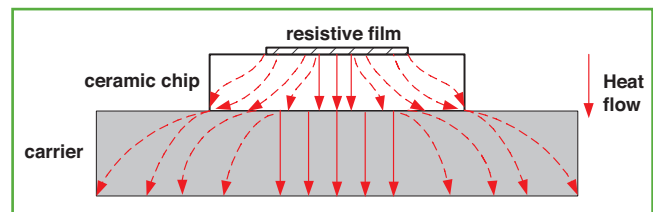
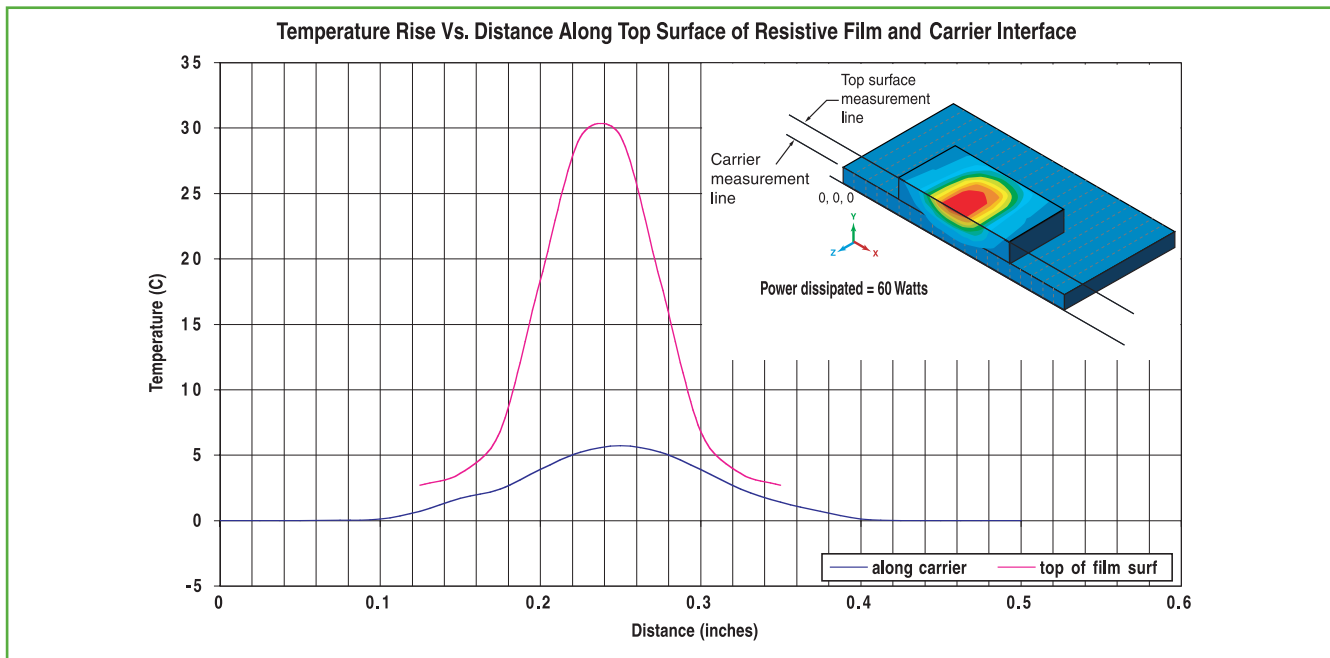
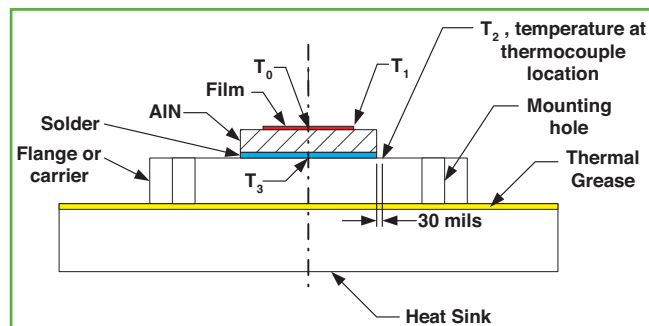

Figure 10. Heat flow around a mounted chip resistor
Figure 11: Computer simulation of isotherms around mounted chip resistor
Figure 12: Temperatures at a number of points on and around a groundplane-mounted resistive chip
Before we can do a thermal design, we must first decide on exactly what we shall mean by "power rating" for a chip device. **Figure 10** illustrates the heat flow around a mounted chip resistor. The resistive film, assumed to have constant power dissipation over its surface, behaves as an isoflux boundary, i.e., a source of uniform heat flux, rather than the isothermal boundary used in the derivation of equation (2). Were the film to completely cover the chip, the isoflux case would approach the isothermal case, but absent that condition the heat spreads out as shown.
The thermal resistance between two points is defined as the temperature difference between those points divided by the heat flow (typical units are degrees Centigrade/Watt). It is analogous to electrical resistance, with temperature corresponding to voltage and heat flux to current. **Figure 10** indicates that there is vertical as well as lateral heat flow in both the ceramic chip and the carrier it is mounted on. This implies that the system must be represented as a lattice network of thermal resistances rather than a single
thermal resistance. (The latter can characterize only the kind of one-dimensional heat flow assumed for equation (2)) **Stated alternately, the temperature will vary laterally along the film and, also, laterally along the mounting surface.** This is illustrated in **Figure 11**, which was made using a “Finite Element Method” (FEM) computer simulation. In actuality, a three-dimensional latticework of resistors is needed to describe a mounted resistive chip, and there is temperature variation along all three dimensions.
The above considerations bear importantly on how a chip is designed and characterized for power handling and exactly how confirming measurements are made. **Figure 12** indicates temperatures at a number of points on and around a mounted chip: (a) T_0 , at the film centroid; (b) T_1 , at the film edge or corner; (c) T_3 , on the mounting surface directly under the film centroid; and (d) T_2 , on the mounting surface 30 mils away from the chip edge. We can make the following qualitative observations:
An ideal heat sink has infinite thermal conductivity and, because of this, the infinite thermal conductivity, T_2 would equal T_3 in Fig. 12. From Fig. 10 and Fig. 11, this clearly is not the case for any real mounting surface; in fact, $T_3 > T_2$.
One strategy for defining power rating might be to measure T_3 directly – or deduce it from a measurement of T_2 and a computer FEM model – and then specify performance as if an ideal heat sink were held everywhere at that temperature. By slicing a mounted resistor in half along its longitudinal axis – in Figure 12, perpendicular to the plane of the paper, down the centerline – we were able to take advantage of the lateral heat-flow symmetry to measure T_2 and T_3 for chips of several sizes and input powers. (The slice plane is an adiabatic boundary, i.e., no heat flows across it.) Results of such measurements are presented in **Table 2**. All chips were 40 mils thick and all measurements were made on a silver-plated high-conductivity copper mounting surface (see the table for more information).
- Next, since our carrier does not have infinite thermal conductivity, we must specify the **exact location – T_2 in Figure 12 – at which we hold the ambient temperature constant. Typically, we choose this as 30 mils from the chip edge along its lateral centerline** – an arbitrary, convenient spot at which to solder a small thermocouple.
In order of increasing accuracy (and decreasing convenience), film temperatures can be estimated by: equation (2) herein (no spreading); any one of several formulas available in the literature that include spreading; or an FEM computer program. The term “constriction resistance” is used to describe that component of thermal resistance over and above what would be produced by purely one-dimensional heat flow. Let us assume a perfectly conducting mounting surface in Figure 10, i.e., a surface along which there can be no lateral temperature variation. Then to calculate the total thermal resistance from the film to the mounting surface, one would compute the one-dimensional resistance of the chip with the film occupying its entire surface and then add the constriction resistance to account for the lateral constriction of the heat-flow. (Note, from the top down the heat spreads and so the term “spreading resistance” is frequently used, but from the bottom up the heat flow constricts.) There are several expressions available in the literature for the constriction resistance of heat sources mounted on rectangular channels (“flux tubes”) with adiabatic walls, i.e., heat-producing films on chips that have no appreciable heat conduction perpendicular to their sidewalls. One formula that yields constriction resistance based on an average film temperature is⁵.